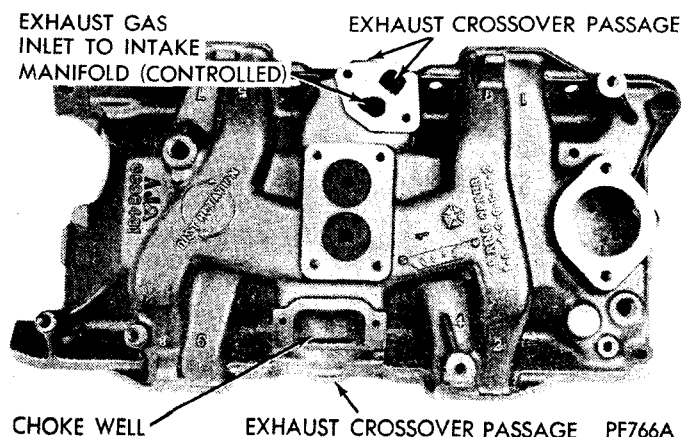

Fig. 8—Intake Manifold 318 and 360 Cubic Inch Engines (Typical)
(1) Clean manifold in solvent and blow dry with compressed air. Inspect manifold for cracks.
(2) Inspect mating surfaces of manifold for flatness with a straightedge.
(3) Inspect exhaust crossover passages through manifold (Fig. 8). If passages are coated with hard, black carbon, they should be scraped clean and sandblasted to remove the carbon deposits.
(4) Install intake manifold, using new gaskets. Tighten manifold screws to 35 foot-pounds.